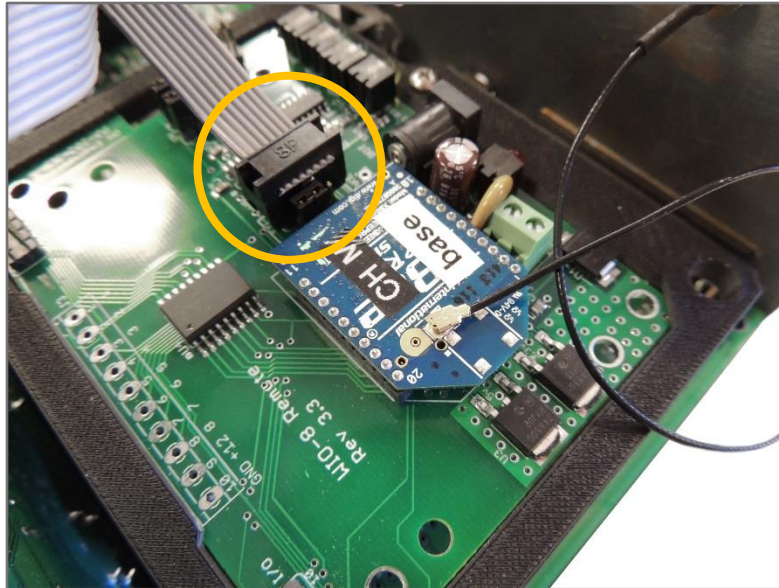

Fig. 11 Proper orientation of ribbon cable.
Step 15: Plug the 8-pin ribbon cable into 8-pin TTL connector as shown in Figure 11. Make sure the wire is oriented the correct direction!